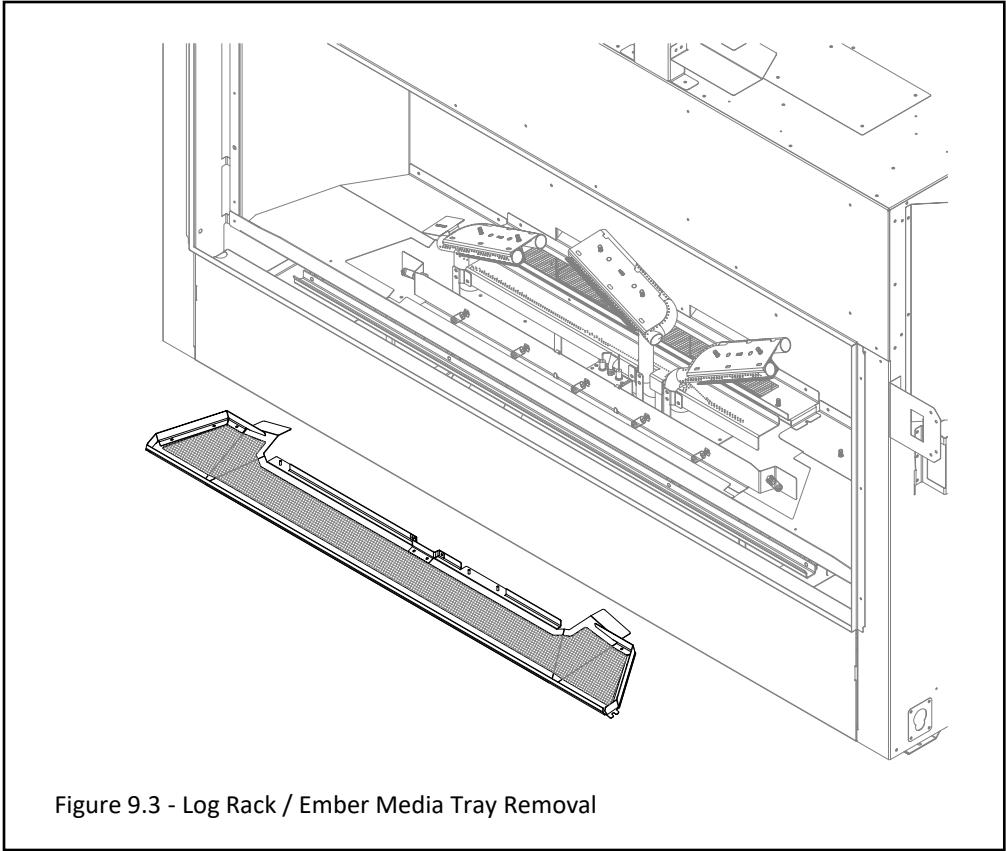

Figure 9.3 - Log Rack / Ember Media Tray Removal
3. Remove and retain (2) screws from the front ember media tray. Lift tray up and out of firebox. See Figure 9.3.
4. Install (7) halogen bulbs (included in components packet) into the lamp bases.